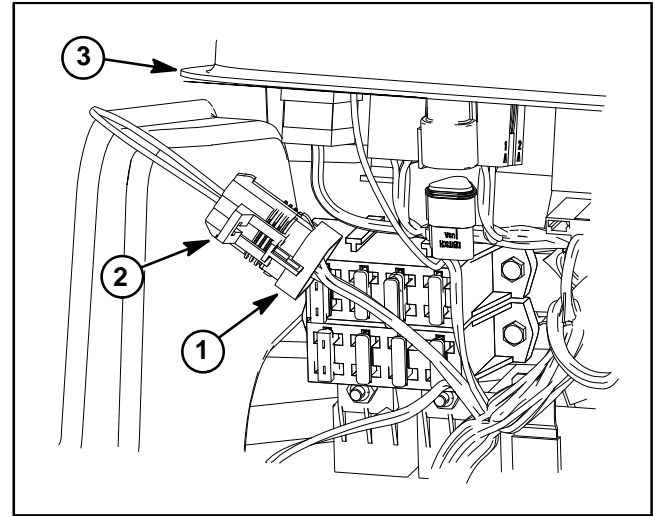

Figure 9
2. Remove cover from control panel to allow access to wire harness loop-back connector. Locate wire harness and loop-back connector (Fig. 9). Carefully unplug loop-back connector from wire harness connector.